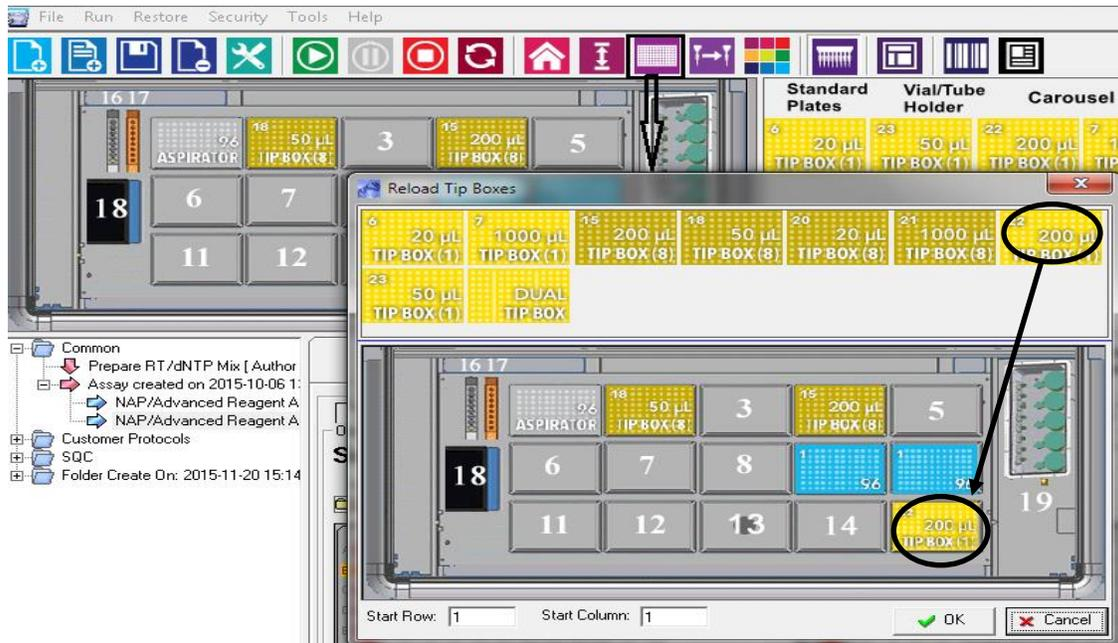

Figure 9-19 Aurora Station –Reload Tip Box
To let the software know that you have a full tip-box you must “reload the tip boxes” by dragging and dropping the correct size of tip box in the software to the location where it exists on the deck (*Figure 9-19 Aurora Station –Reload Tip Box*). In the VERSA1100 main interface menu, drag 200 Tip (1) representing single channel 200µL Tip Box to position 15. Or under Reload Tip Boxes mode, drag 200Tip (1) to position 15.